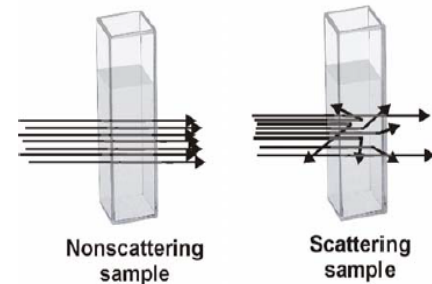

Figure 2. Light scattering by suspended particles will lead to erroneous absorbance measurements.
2. Another potential problem is light scattering which caused by suspended particles. As shown below in Figure 2, the particulates will deflect light rays and cause an artificial increase in absorbance.